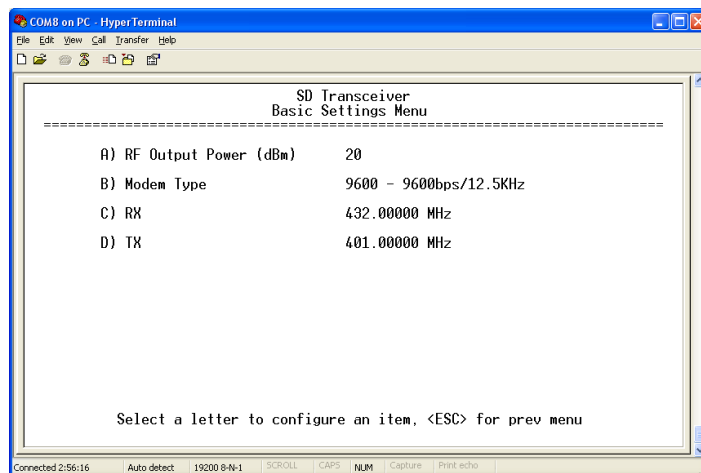

Figure 16. Basic Settings Menu
1. Access the Basic Settings Menu by following this navigation path: **Radio Configuration Menu>>Basic Settings Menu** (see Figure 16). The power level is displayed to the right of **RF Output Power**.
- The over-the-air data speed and bandwidth of the radio's transmitted signal is determined by the **Modem Type** setting on the Basic Settings submenu (Figure 16). All radios in the network must use the same modem setting if they are to communicate with one another. The default setting is **Modem 9600**, but it may be set to any
The receive (RX) and transmit (TX) frequencies may be viewed or set on the Basic Settings submenu (Figure 16). If no frequencies have been entered, the fields will be blank and the radio's PWR led will flash, indicating that an entry is needed. Frequencies *must* be entered for the radio to operate. Consult your station license to determine the authorized frequencies for your system. If changes are needed, proceed as follows: